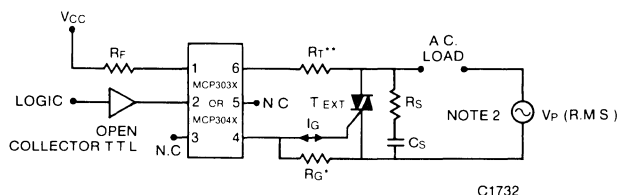

Figure 7 For Load Current IL ≤ 50mA RMS · Interface Via External Triac (TEXT)
Typical Snubber Values — Fig. 7. Circuit Driving Inductive Load:
1. MCP304X and TEXT VDRM ≥ 400 V recommended for 120 V Inductive Loads - Fig. 7